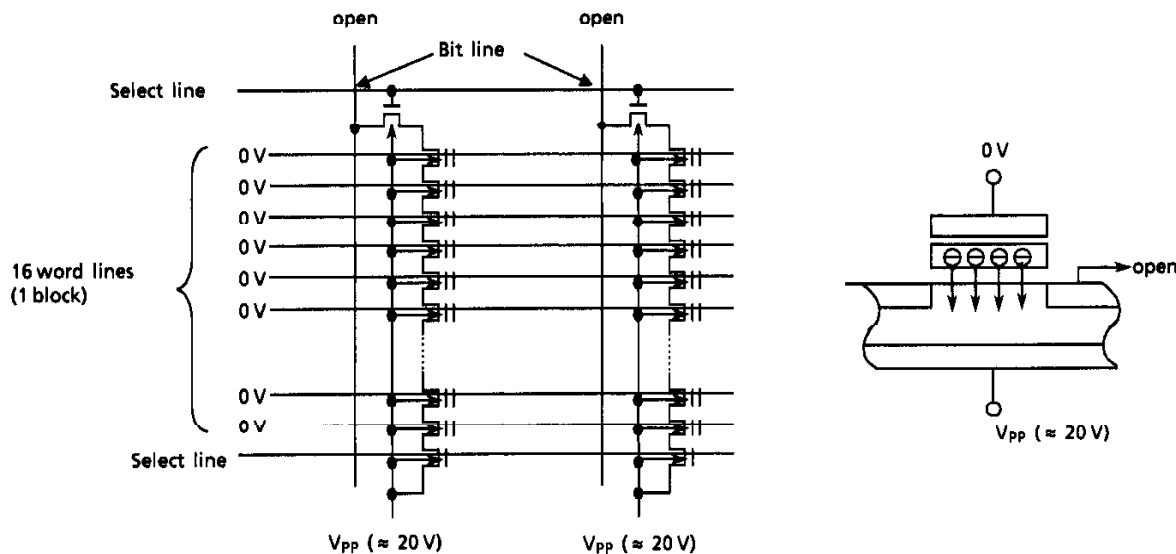

Figure 18. TC5816 Erase Device Physics
- (1) A high level is applied to Select line 1 and a low level is applied to Select line 2 so that the device is connected to the Bit line and disconnected from the ground line.
- (2) V_{pp} (≈ 20 V) is applied to the selected word line and an inhibit voltage of V_{PI} (≈ 10 V) is applied to the unselected word lines.
- (3) 0 volts is applied to the bit line tied to cell transistor TR1 and the inhibit voltage V_{DPI} (≈ 10 V) is applied to the bit line tied to TR2.
- (4) V_{pp} is applied between the control gate and the channel in TR1, as shown in Figure 18, which causes electrons to be injected from the channel to the floating gate by a tunneling mechanism.
- (5) The injected electrons are captured in the floating gate surrounded by an oxide layer and will remain, even after power is cut off, until they are removed by an Erase operation.
- (6) Although 20 volts is applied to the control gate of TR2, the voltage difference between the control gate and the channel is only 10 V because the voltage of the channel is 10 V. Therefore, tunneling does not take place (i.e. the electron is not injected into the floating gate.)
- (7) Tunneling does not take place in the unselected pages because of the 10 V (V_{PI}) applied to the unselected word lines which makes the voltage difference between the control gate and channel only 10 volts.
Figure 18 shows the NAND memory cell level details of the Erase mechanism. The Erase operation is used to turn the "0" (programmed) cells back to "1" in a block. The captured electrons are pulled out from the floating gate to the substrate by a tunneling mechanism. 0 volts is applied to the control gate and V_{pp} (≈ 20 V) is applied to the substrate so that a 20-volt potential is created and the electrons in the floating gate are pulled out by the tunneling mechanism.